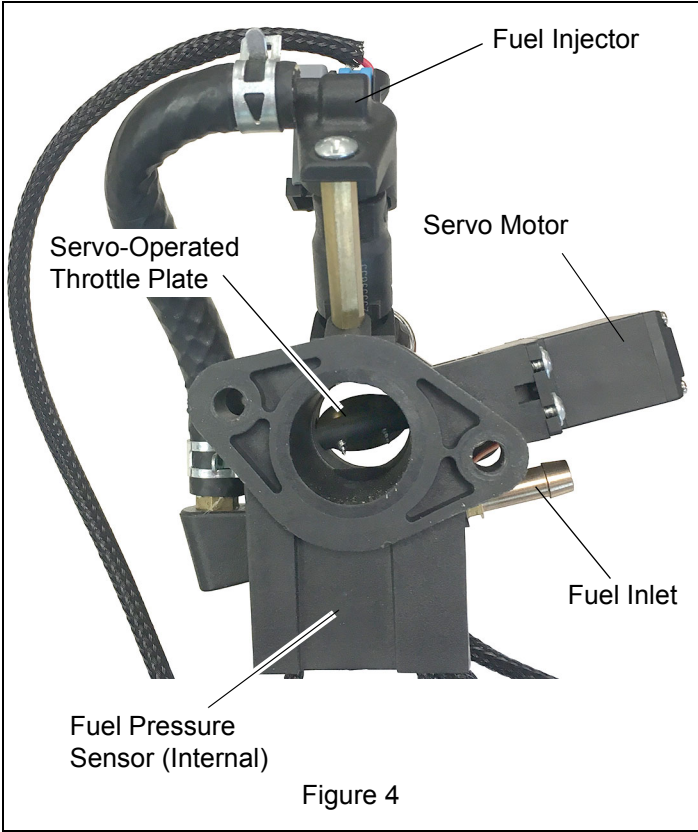

Figure 4
*Throttle body assembly consists of fuel injector, fuel pressure sensor and servo-operated throttle plate. See Figure 4.